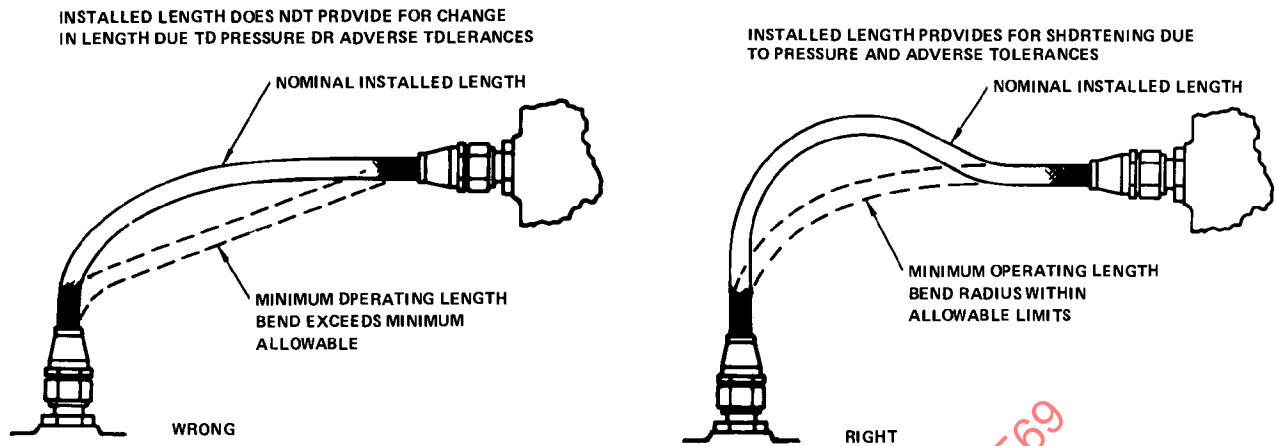

FIGURE 1
5.2.1 Proper Length: Hose installations should provide adequate length to provide for adverse tolerance variations and changes in length due to pressure application. The change due to pressure can be as much as 2%, while the allowance for adverse tolerance must be determined by taking into account the end point tolerances plus the hose length tolerances. The preferred installation should provide at least one bend and the hose length should be such that it can accommodate the worst manufacturing and operating tolerance conditions. (See Figs. 1 and 2).